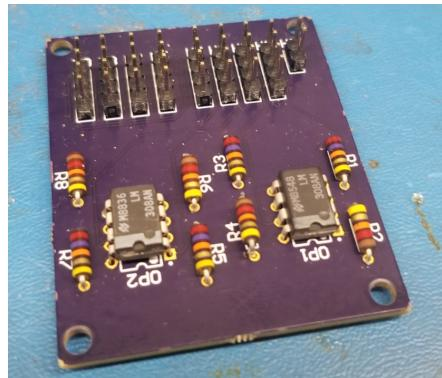

Figure 4: Voltage Divider step 1
2. Once soldered, the board should look like Figure 4: